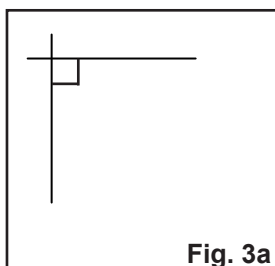
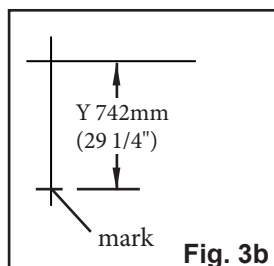
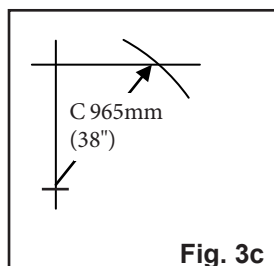
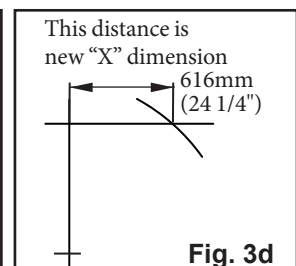

Fig. 3a
Fig. 3b
Fig. 3c
Fig. 3d
- Determine final dimension.** On a flat vertical surface, using a level, draw one horizontal line and one vertical line, creating a right angle (Fig 3a). Measure down from the intersection the determined “Y” dimension and mark (Fig 3b). With the tape measure starting at the modified “Y” mark, swing the tape across the “X” line and mark at the “C” dimension where it crosses the “X” line (Fig 3c). Measure from the intersection to the “C” intersection and this will be your new “X” dimension (Fig. 3d).